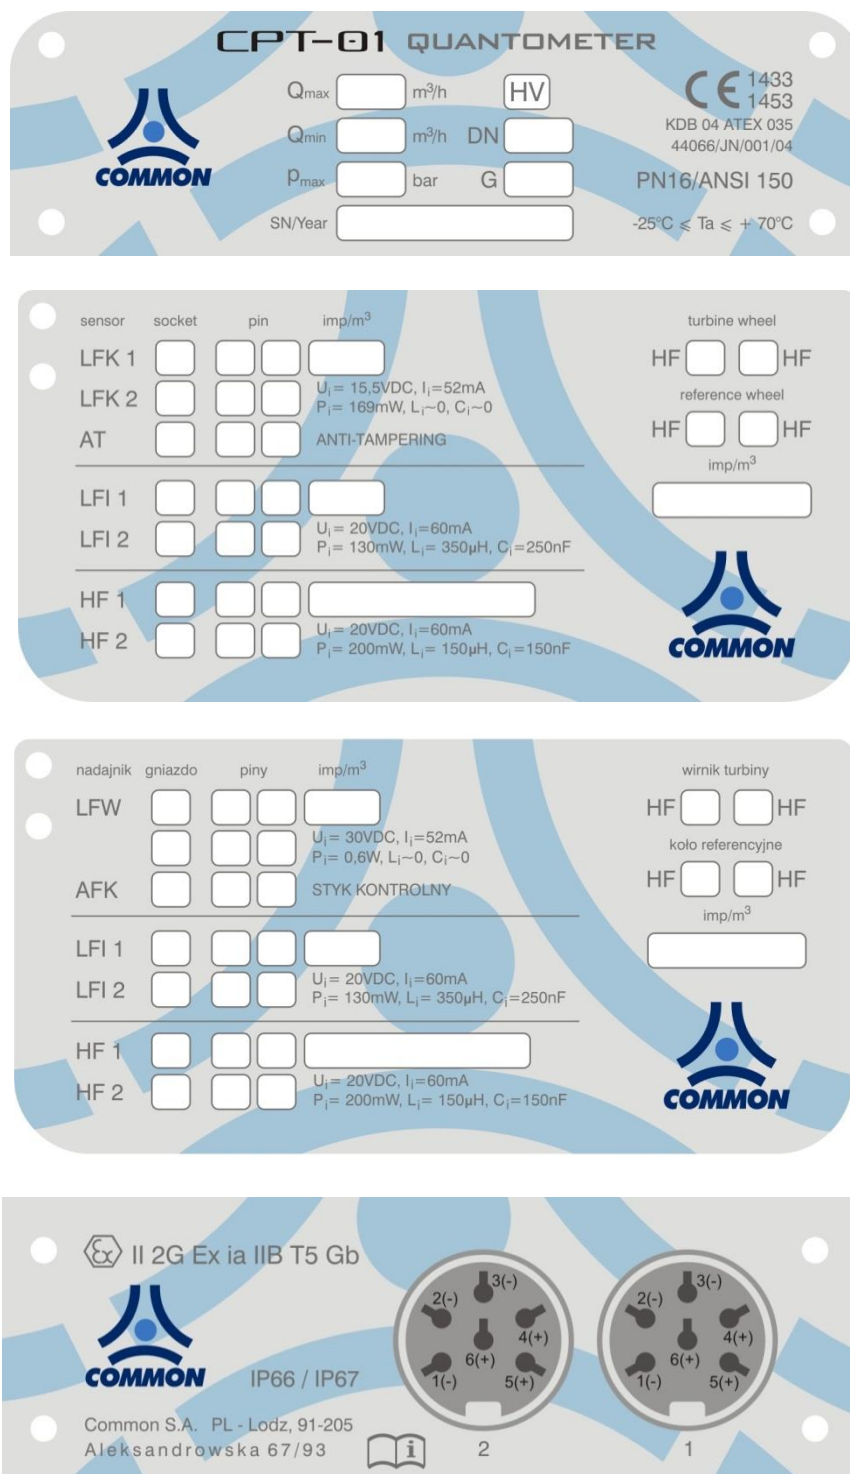

Fig. 8. Standard version nameplates
S – standard connections, P – preferred connections, O – optional connections (*) – not available with replaceable LF sensors The view and numbering of the pins Sockets 1 and 2 is shown in Fig. 8 (9).
The number of HF pulses per one cubic meter of gas is determined individually for each gas meter and is indicated in the nameplate (Fig. 8) located on top of the index head.
Basic specification of the gas meter, serial number and production year is shown in the nameplates (Fig. 8 and Fig. 9). The plates are fixed to the index housing by means of screws. Two first digits of the serial number indicate the gas meter size code, according to Table 2. Information marks (Fig. 10) are placed on the main body or external devices.